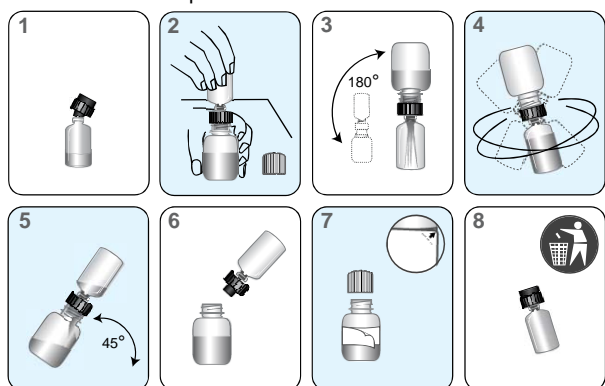

Figure 2. Reconstitution Process
- Open the dried reagent vial and firmly insert the notched end of the reconstitution collar into the vial opening (Figure 2, Step 1).
- Open the matching reconstitution solution, and set the cap on a clean, covered work surface. While holding the solution bottle on the bench, firmly insert the other end of the reconstitution collar into the bottle (Figure 2, Step 2).
- Slowly invert the assembled bottles. Allow the solution to drain from the bottle into the glass vial (Figure 2, Step 3). Wait for the lyophilized reagent to go into solution, then gently swirl the solution in the glass vial to mix. Avoid creating foam while swirling the bottle (Figure 2, Step 4).
- Invert the assembly and tilt at a 45° angle to minimize foaming (Figure 2, Step 5). Allow all of the liquid to drain back into the plastic bottle.
- Remove the reconstitution collar and glass vial (Figure 2, Step 6).
- Re-cap the plastic bottle and peel away and discard the top label (Figure 2, Step 7). On the remaining bottle label, record operator initials, reconstitution date, and lyophilized reagent lot number on all reconstituted reagent vials. Be sure to record the analyte (PCA3 or PSA) on the Probe Reagent vials.
- Discard both the reconstitution collar and vial (Figure 2, Step 8).